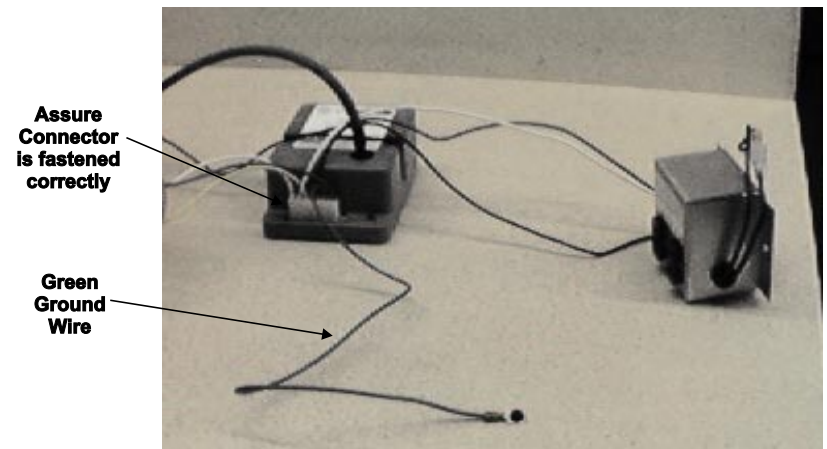

Figure 2
8. Before installing the module, ensure the connector is fastened correctly to the module. All pins should line up with the wires and the barb should face the module. See Figure 2.